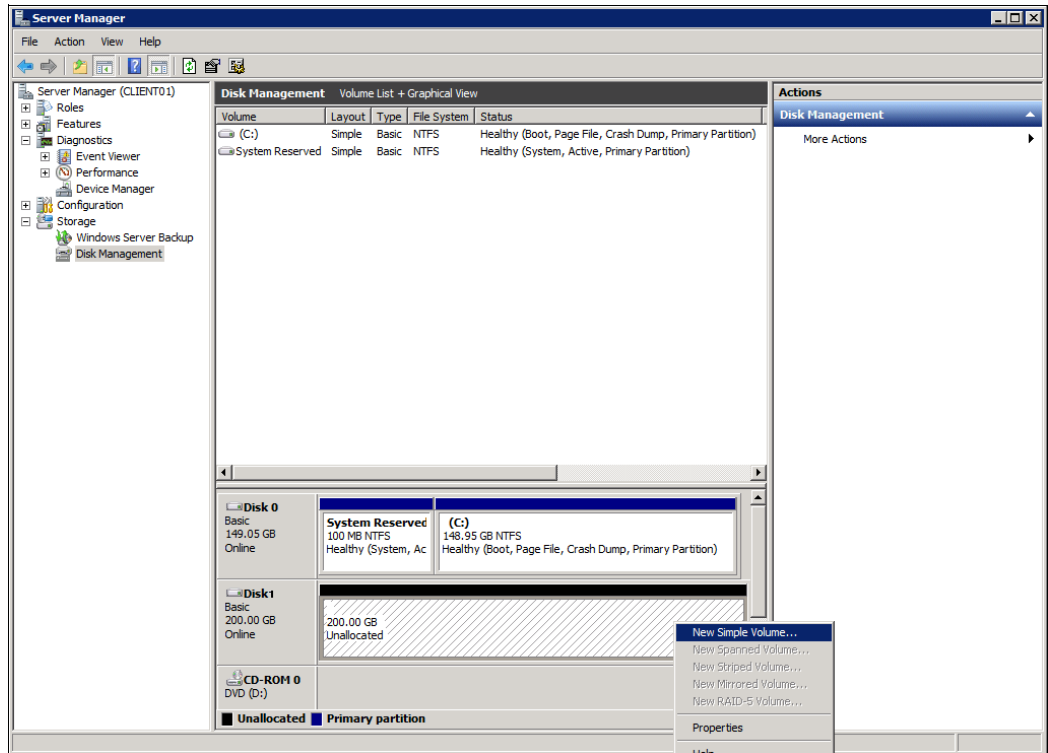

Figure 16-18 Creating a partition
3. Create and format a partition. Right-click in the deallocated disk space and select **New Simple Volume**, as shown in Figure 16-18.